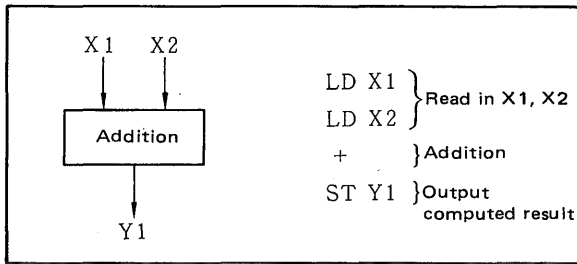
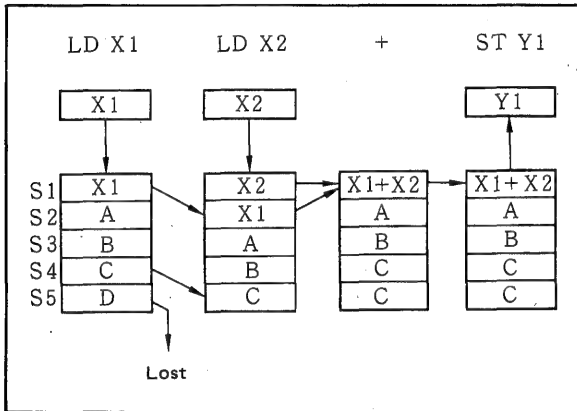

Figure 4-2-1. Two-Input Adder and Program.
Figure 4-2-2. Behavior of Arithmetic Registers Associated with the Sample Program.
The SLPC performs three basic operations. It reads the input signal, computes, and outputs the computed result. The example in Figure 4-2-1 shows how to program the addition of two input signals. Figure 4-2-2 shows how the stack registers S-change during the program. All computations are performed in the common stack registers S. Connection of signals to the registers — that is, input to the S registers — is performed by means of the LOAD (LD) instruction. The S registers, S1 thru S5, comprise a "stack," and data in S is pushed down (S1 to S2, S2 to S3, and so on) each time new data is input by the LD instruction.